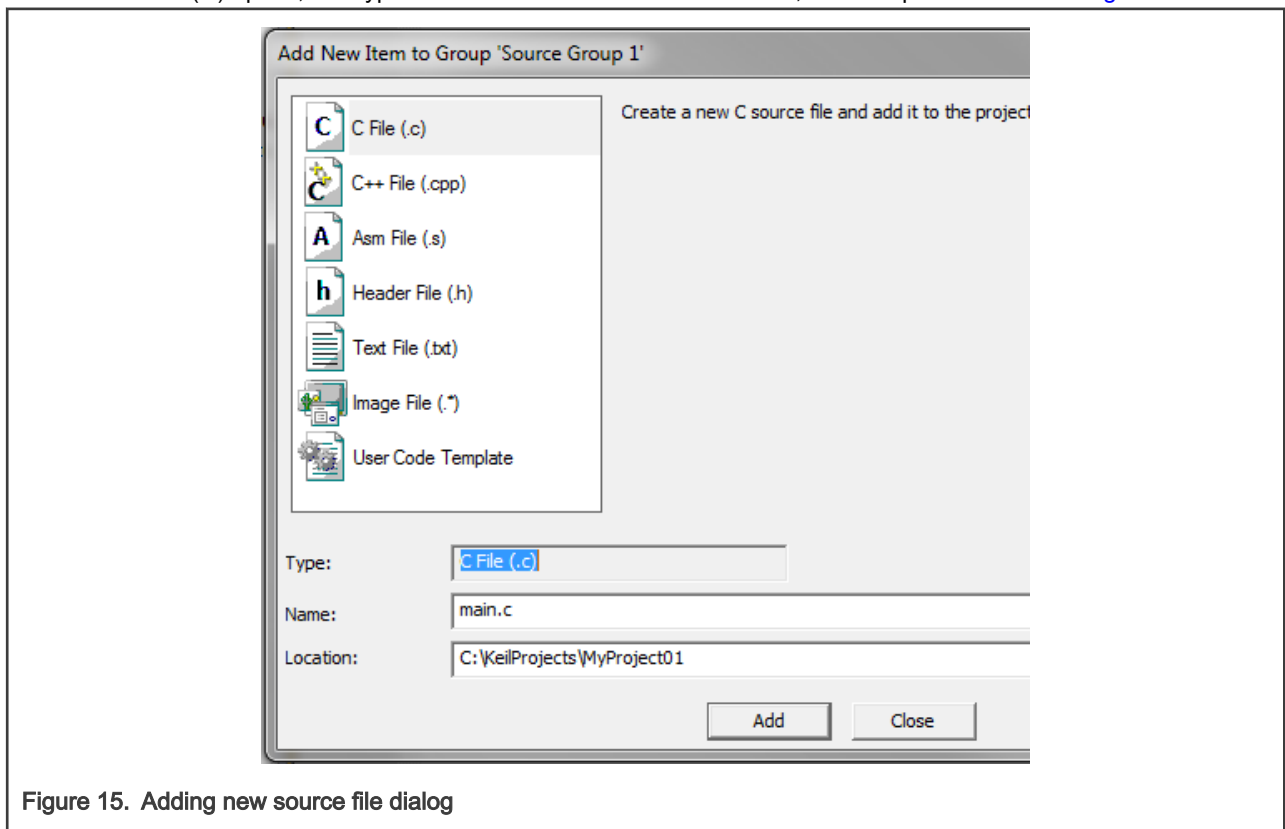

Figure 15. Adding new source file dialog
2. Select the C File (.c) option, and type a name of the file into the Name box, for example 'main.c'. See Figure 15.